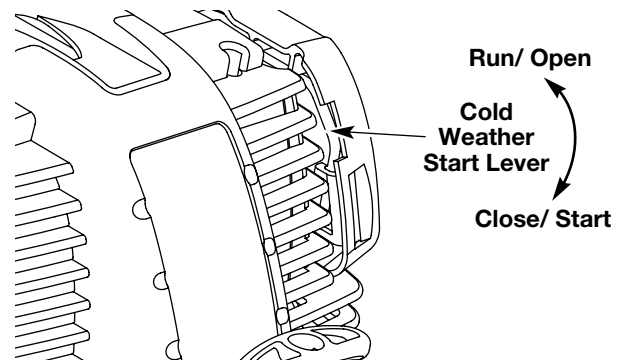

Fig. 14
**IF COLD...** For cold weather conditions (below 40°F), flip the Cold Weather Start Lever (Fig. 14) down to the start/closed position and continue to step 3. **DO NOT** flip this lever down if the temperature is above 40°F.